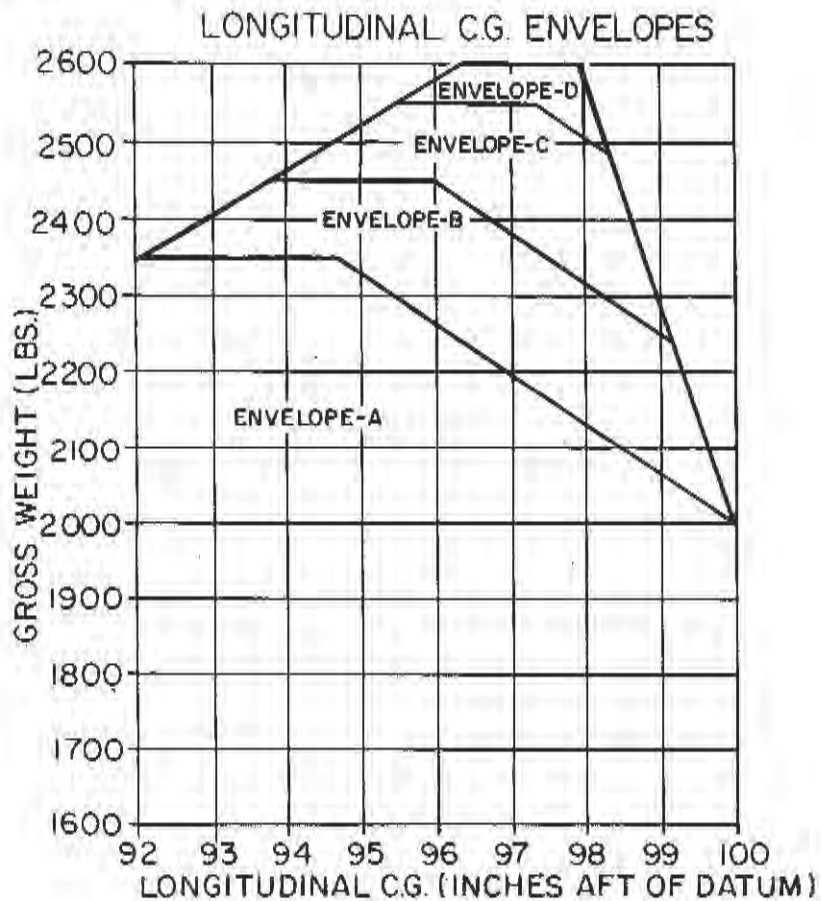

Figure 5-1
- (1) Station zero located 100.0 inches forward of centerline of main rotor hub.
- (2) Longitudinal c.g. range varies with gross weight from 92.0 inches to 100.0 inches. See Figure 5-1.